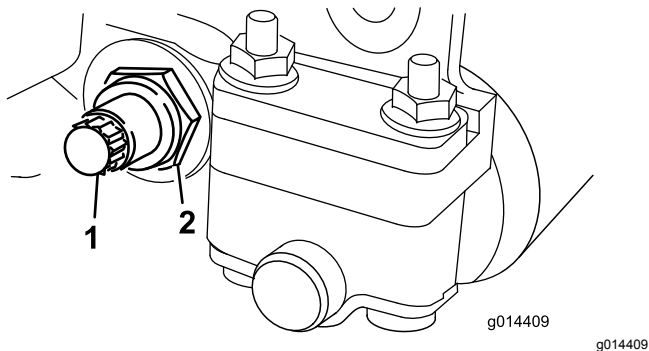

Figure 21
3. On each side of the machine, loosen the locknut securing the bedbar bolt (Figure 21).
4. Remove each bedbar bolt allowing the bedbar to be pulled downward and removed from the cutting unit (Figure 21).